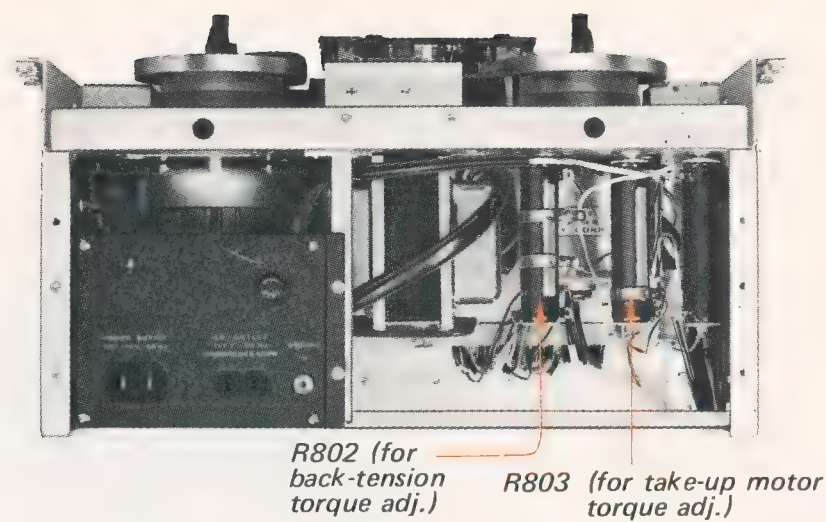

Fig. 3-1-9. Adjusting parts location for reel motor torque adjustment
- (1) Place the reel with string wound several turns clockwise on the hub (44 mm dia) onto the Take-up Reel Table. Tie the string to the spring scale.
- (2) Set the unit to the play mode. Pull the spring scale and then allow to take up the string on the reel while approaching the scale to the reel at the same speed of tape running. Adjust R803 by sliding the band for 260 to 280 g-cm (3.6 to 3.9 oz-inch) on the spring scale. See Fig. 3-1-9.
- (1) Place the empty hub with string wound several turns counterclockwise on the hub (44 mm dia) onto the Supply Reel Table. Tie the string to the spring scale.
- (2) Set the unit to the play mode. Pull the spring scale at the same speed of tape running. Adjust R802 by sliding the band for 240 to 280 g-cm (3.3 to 3.9 oz-inch) on the spring scale. See Fig. 3-1-9.